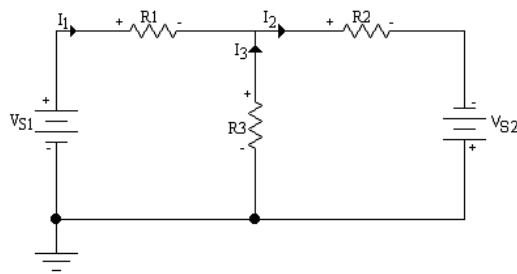

Figure 3.1
1. Calculate the value of each voltage and current of Figure 3.1 with  $V_{S1} = 12$  V,  $V_{S2} = 6$  V,  $R_1 = 1$  k $\Omega$ ,  $R_2 = 3.3$  k $\Omega$ ,  $R_3 = 4.7$  k $\Omega$ . Use the nodal voltage method and the mesh current method to prove your results. Show all computer simulation.
1. Construct the circuit of Figure 3.1, measure the value of each current and voltage using the DMM.